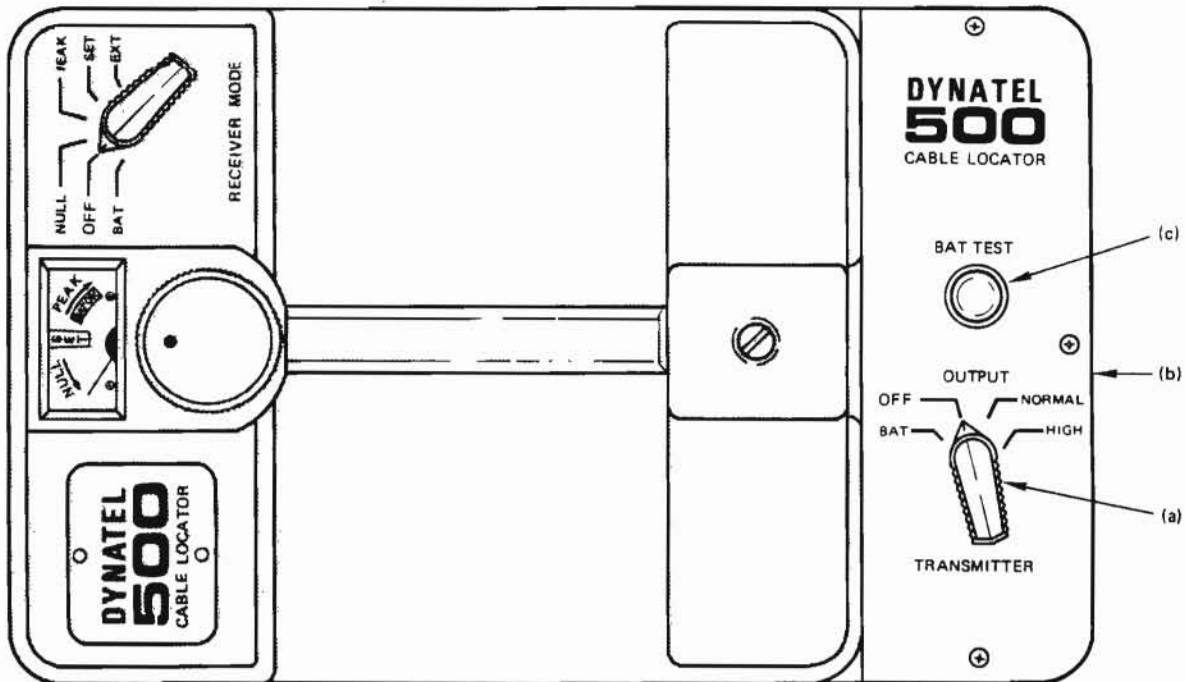

Fig. 3 – Transmitter Unit Panel. Functions are Keyed to Text in Paragraph 2.02.
**2.02** The TRANSMITTER has a single switch located on the panel next to the accessory storage well, as shown in Fig. 3 and described below: